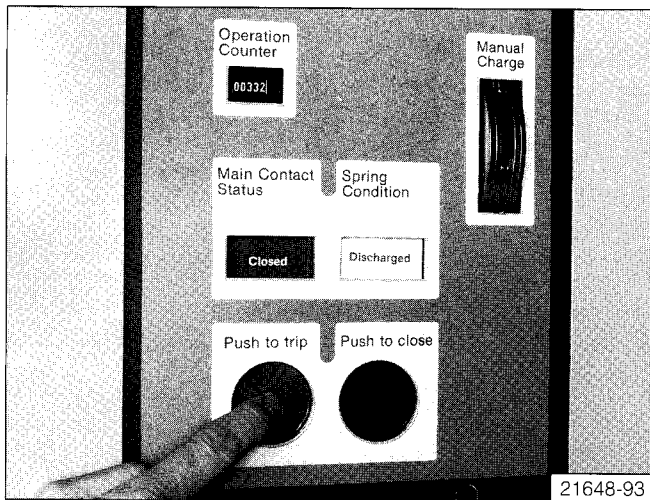

Figure 32: Manual Tripping of Circuit Breaker.
4. Perform the Spring Discharge Check, by first pushing the red Trip pushbutton, then the black Close pushbutton, and finally the red Trip pushbutton again. Verify that the circuit breaker is OPEN and the closing spring indicator shows DISCHARGED. See **Figure 32**, which shows the breaker condition preceding the second operation of the red Trip pushbutton.